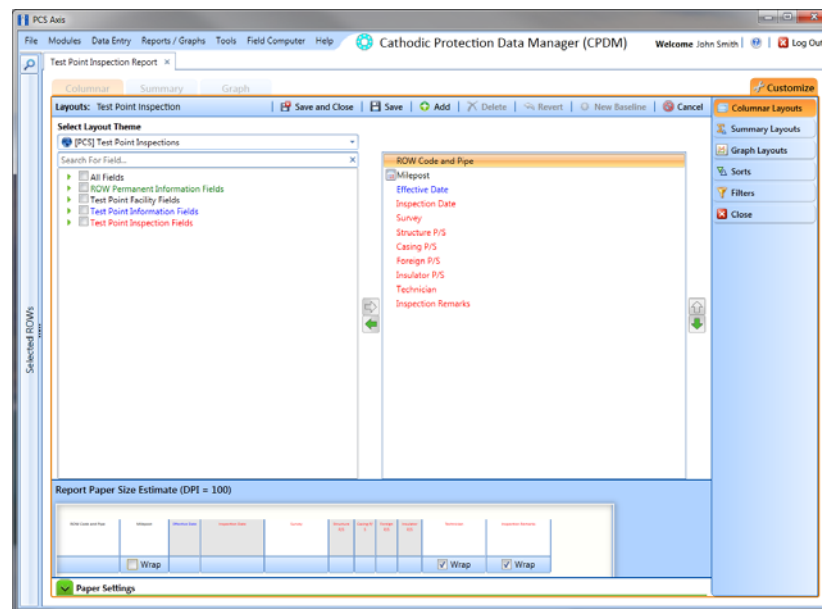

Figure 14-30. Layouts
- 3 Click the **Customize** tab  then the **Columnar Layouts** button  to open the *Layouts* page (Figure 14-30).